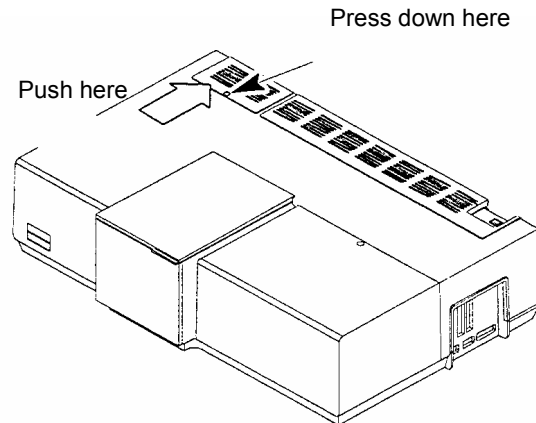

Figure 32 Removing lamp compartment cover
2. Remove the lamp compartment cover by pressing down the catch and carefully pushing the cover to the rear until the catch is free, as shown in Figure 32, then you can lift off the cover.